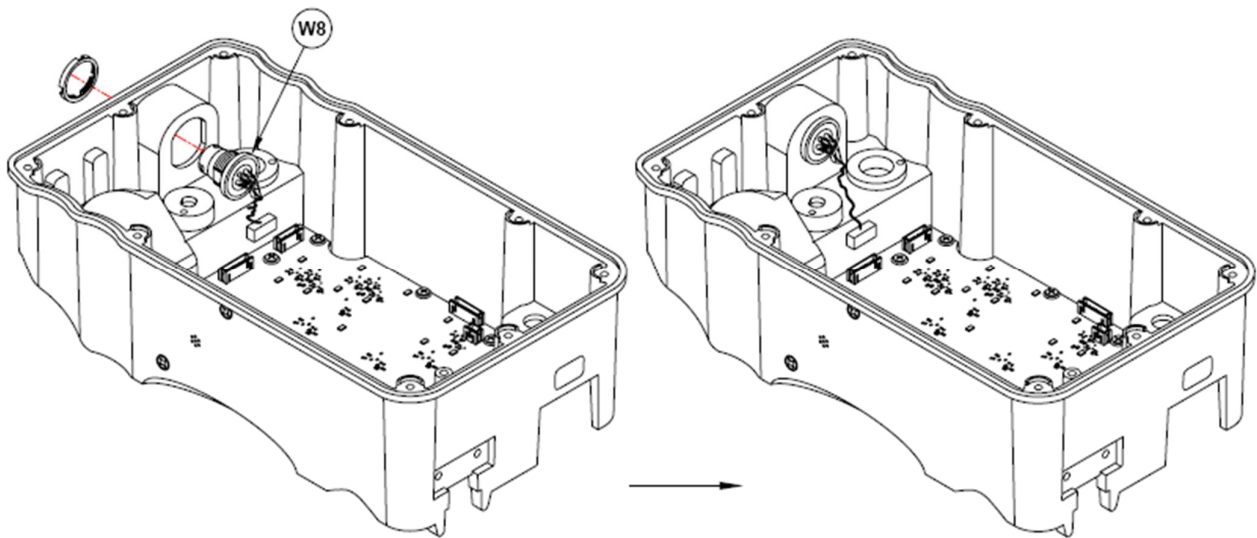

Figure 12 : Re-assembly of Handset connector
- d) Remove the handset connector assembly as shown in Figure 12.
- b) Mount the circular nut on the headset connector from the outer side of the Top assembly unit as shown in Figure 12.